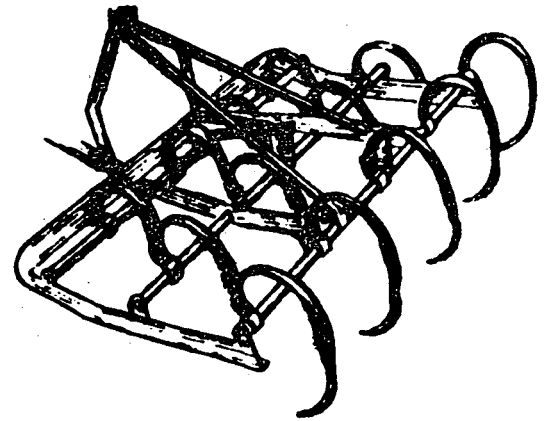

Fig. 1
*CASE I - INTEGRAL MOUNTED HARROW (Fig. 1)*